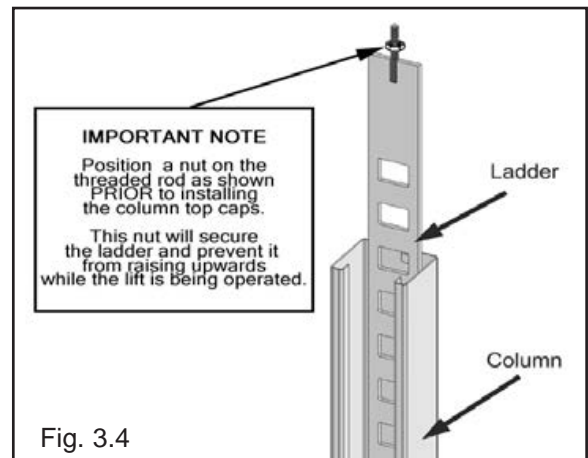

Fig. 3.4
4. With the Columns standing and the Cross Tubes in position, install the Safety Ladders. Pass the Ladders through the Column openings and drop down through the Slide Block guide slots on the cross tube until the Ladders come to rest on the Base Plates. **DO NOT BOLT** Columns down at this time. (See Fig. 3.4 - 3.5)